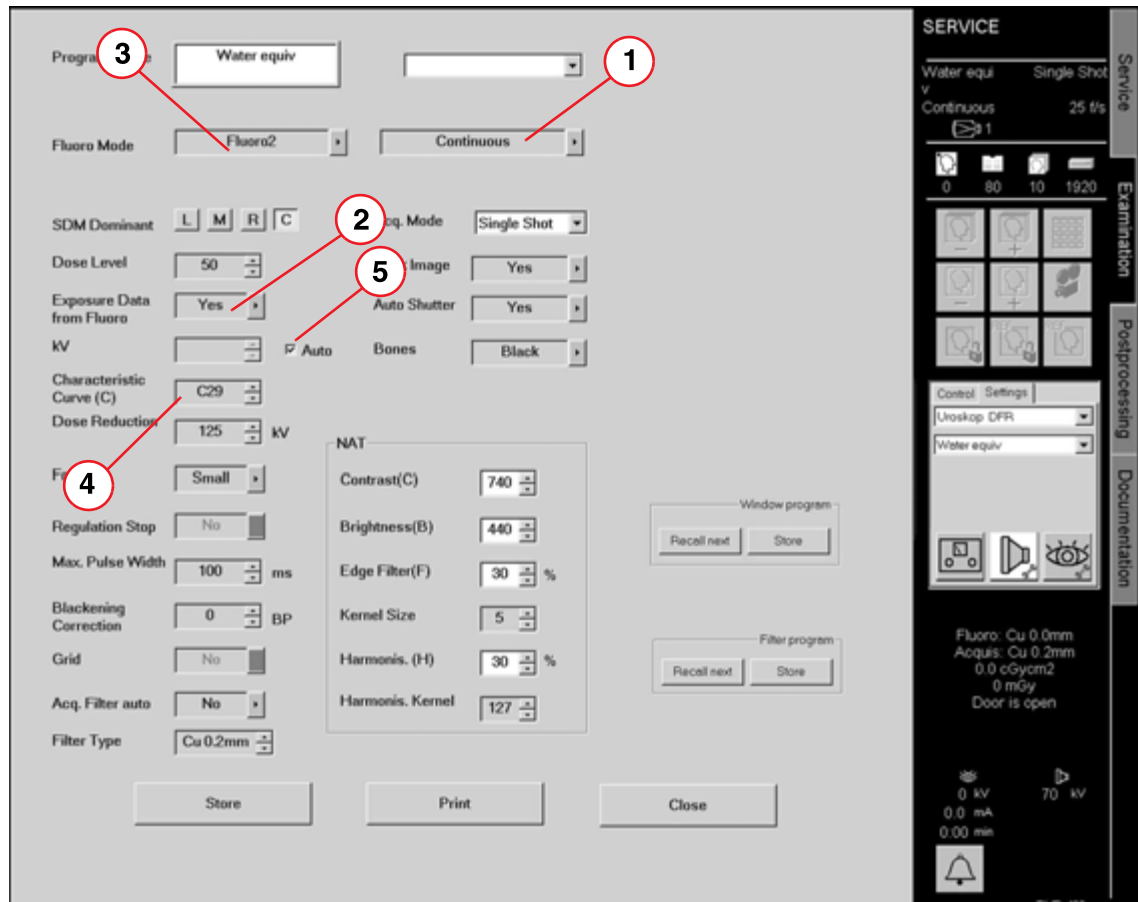

Fig. 28:
- Create a new organ program (as described in the Operating Manual; or in the System Help; UROSKOP /FLC installed at the FLC) with following parameter (Fig. 28 / p. 47) and confirm the settings with **Store**.
- **Continuous** (1/Fig. 28 / p. 47),
- **Fluoro Mode > Fluoro2** (3/Fig. 28 / p. 47),
- **Exposure Data from Fluoro > Yes** (2/Fig. 28 / p. 47),
- **Auto** checkbox selected (5/Fig. 28 / p. 47),
- **Characteristic Curve (C) > C29** (4/Fig. 28 / p. 47).